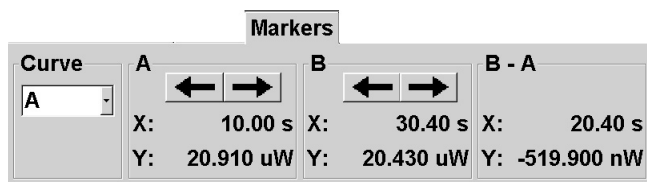

Figure 6-7. Markers Section
- The **A** box (see Figure 6-7) gives the coordinates of the point met by marker **A** on the selected curve.
- The **B** box (see Figure 6-7) gives the coordinates of the point met by marker **B** on the selected curve.
- The **B-A** box (see Figure 6-7) gives the difference between the coordinates of the points met by markers **A** and **B** on the selected curve.